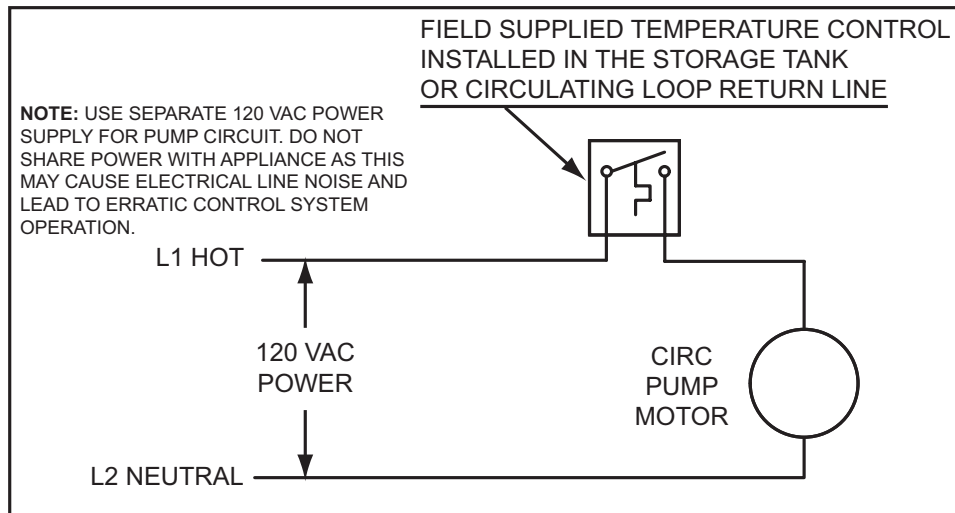

Figure 64
6. If a pump is being installed between a water heater and storage tank or on a building recirculation loop wire according to Figure 64 on page 66.
7. If a pump is being installed in a recirculation loop between the water heater and a commercial dishwasher wire according to Figure 64 or Figure 65 on page 66.